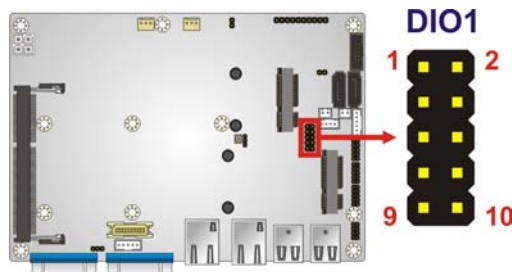

Figure 4-6: Digital I/O Connector Location
- CN Location: See **Figure 4-6**